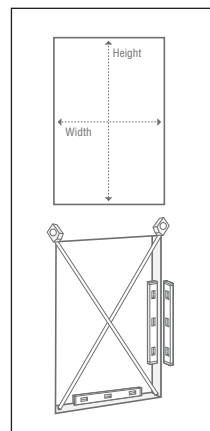

fig. 1
- Verify the window opening with the frame size of the window. Ensure there is a minimum of 1/4" extra space for height and width. (**fig. 1**)